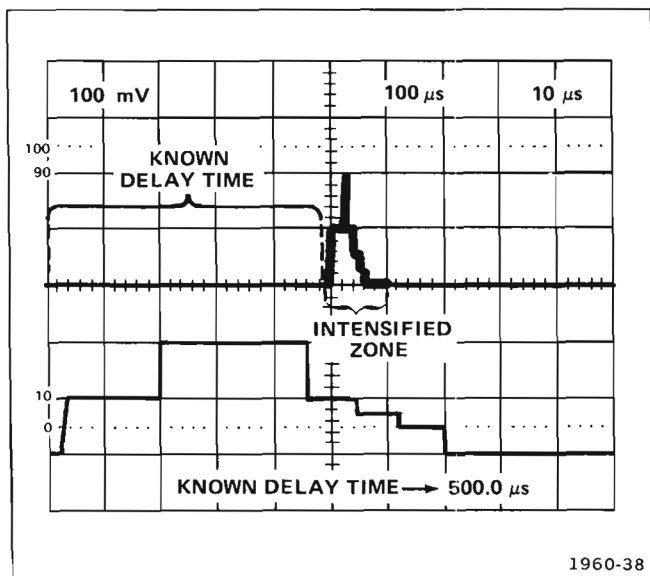

Fig. 1-12. Examining an event that occurs within a selected time interval after a known delay time in the delay-time mode.
- b. Set the appropriate triggering, position, deflection-factor, and sweep-rate controls for the desired dual-trace display. See the example in Fig. 1-12.
- d. Set the delayed (B) sweep rate (i.e., the intensified zone length) for the desired time interval after the delay time selected in part c. Multiply the delayed (B) sweep rate by 10 to determine the actual displayed delayed (B) sweep time interval. See the example in Fig. 1-12.